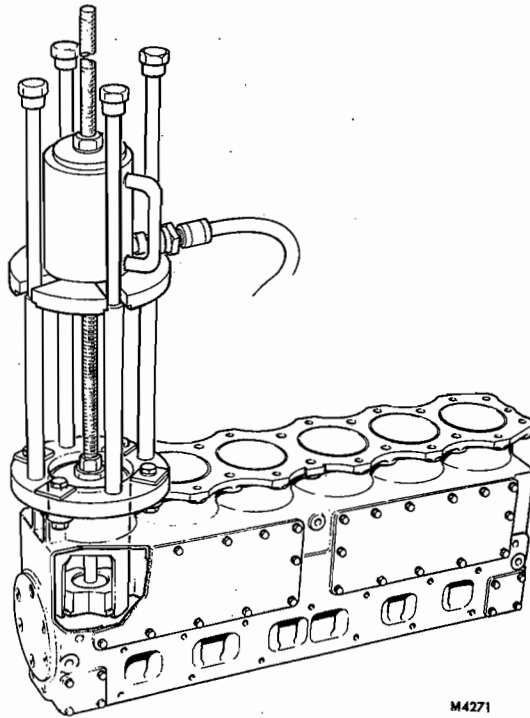

FIG. 10 WITHDRAWING CYLINDER LINER
8. Screw lead screw into puller adaptor and insert it into cylinder with split collar located as shown in Fig. 10.